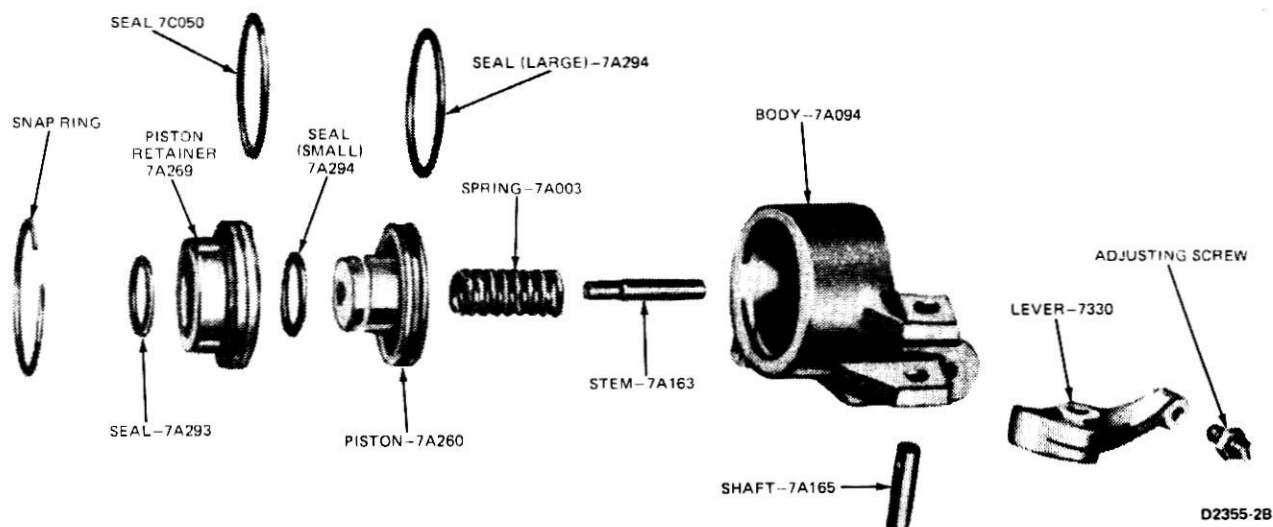
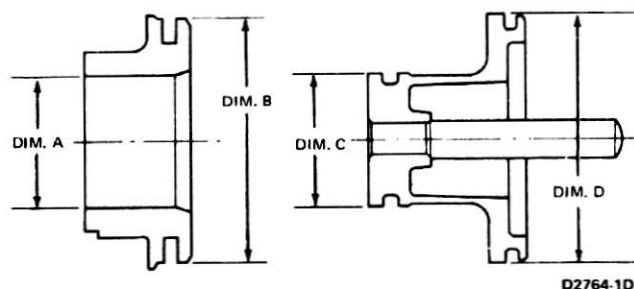

FIG. 27 Front Servo Disassembled
FIG. 28 Front Servo Component Identification
2. Install the inner and outer O-rings on the piston retainer. Install a new O-ring on the return piston and on the servo piston (Fig. 27). Figure 28 shows correct piston details.